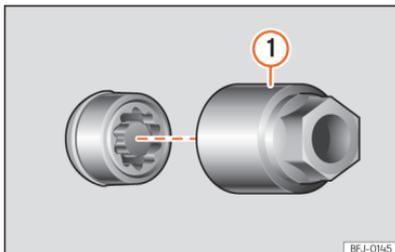

Fig. 195 Anti-theft wheel bolt with cap and adapter.
- Insert the special adapter »» Fig. 195 ① (vehicle tools »» page 251) onto the anti-theft wheel bolt and push it on as far as it will go.